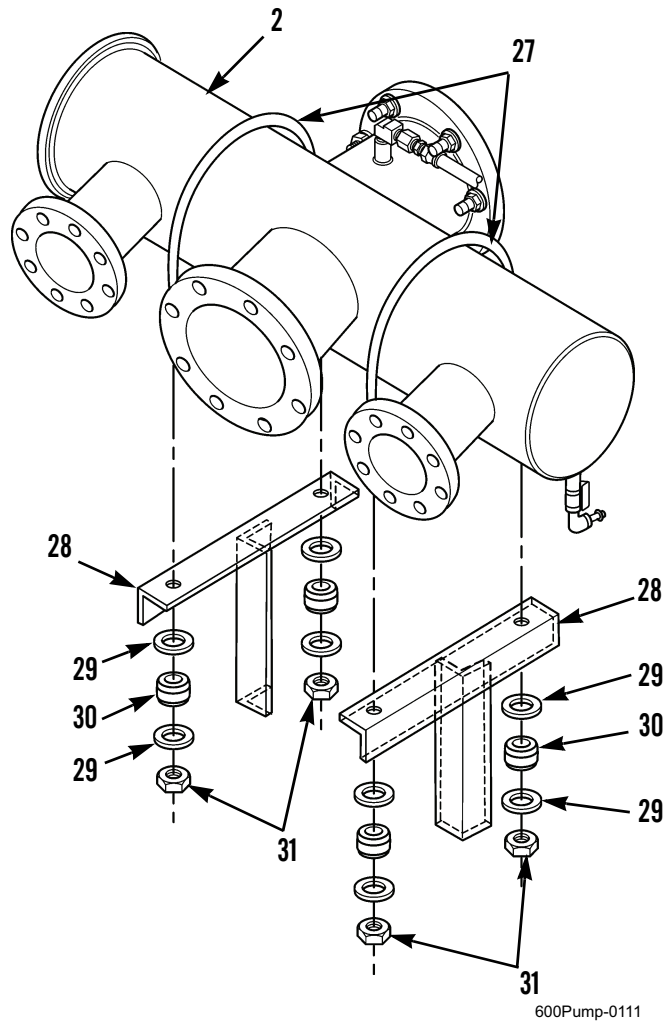

Figure 9. Suction Manifold Mounting.
17. Remove two nuts (Figure 9, Item 31), four washers (Figure 9, Item 29), and two shock mounts (Figure 9, Item 30) from each of two U-bolts (Figure 9, Item 27) and welded mounting brackets (Figure 9, Item 28).
18. Lift suction manifold (Figure 9, Item 2) from welded mounting brackets (Figure 9, Item 28) and pump casing (Figure 8, Item 25).
19. If damaged, remove two rubber strips from welded mounting brackets (Figure 9, Item 28).